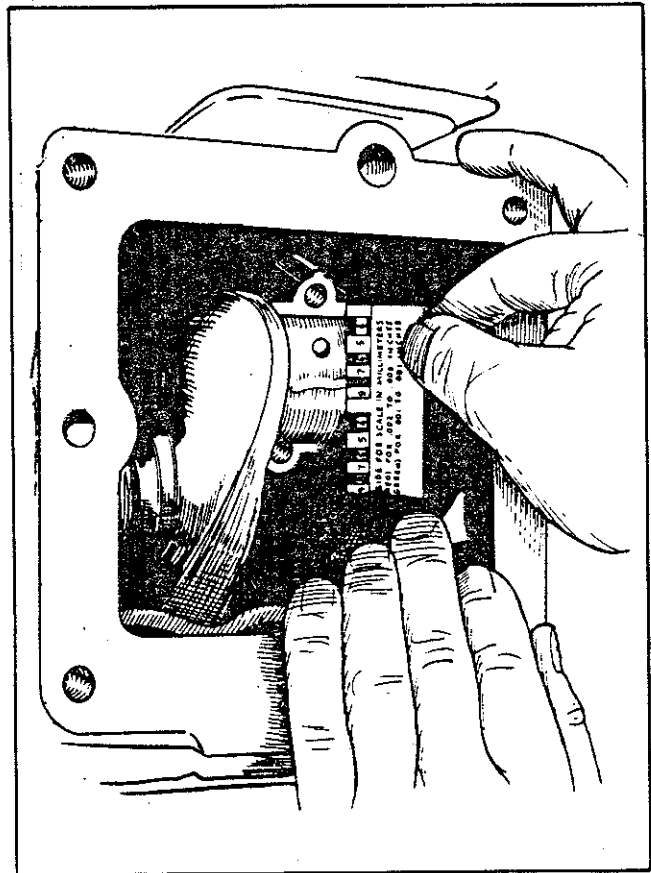

Figure 6-8. Measuring Bearing Clearance
- (a) Place a piece of correct size Plastigauge in the bearing cap the full width of the bearing insert about 1/4 inch (6.35 mm) off center (figure 6-8).
- (13) Position two valve tappets (83), for exhaust valves, in cylinder block assembly (104). Press two valve guides (81) into position. Lightly coat stems of two exhaust valves (82) with clean engine oil and install each as follows: Position and compress valve spring (80). Slide exhaust valve (82), stem down, into exhaust port. Position exhaust rotocap (79) and two rotocap locks (78) and relieve pressure on valve spring (80).
- (14) Position two valve tappets (77), for intake valves, in cylinder block assembly (104). Press two valve guides (74) into position. Lightly coat stems of two intake valves (76) with clean engine oil and install each as follows: Position and compress valve spring (73). Slide intake valve (76), stem down, in inlet port. Position spring washer (72) and two locks (71) and relieve pressure on valve spring (73).
- (15) Facing flywheel position of engine, crank engine over slowly by hand until left hand intake valve opens and closes. Continue about one half turn. This should place the left hand piston at the top of its compression stroke, the position it must be in to properly adjust valve for the left hand cylinder. Using a feeler gage, turn adjusting screws on valve tappets (77 and 83) until they are set to the clearance specified in table 6-1.